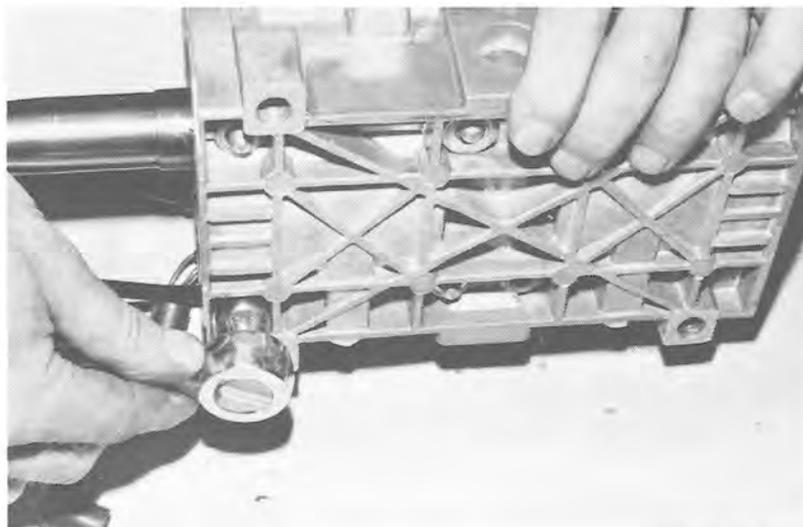

FIG. 1-21
Remove the eight (8) cylinder base nuts using a 13 mm socket wrench and remove the eight (8) spring washers. The cylinders may be removed. See Fig. 1-21.